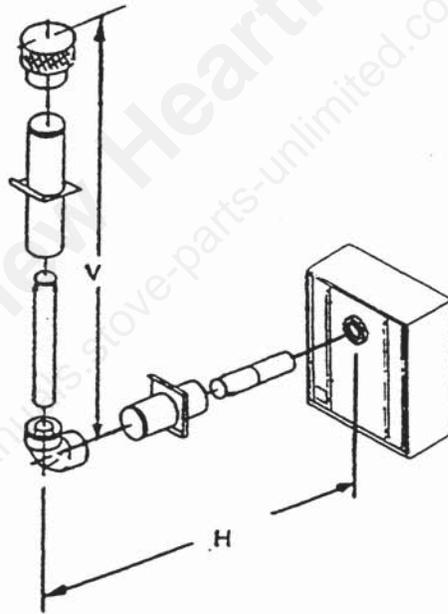

FIGURE 6
Figure 6 and Table 3 show examples of possible installations using one (1) 90° elbow. Dimension V is listed as **MINIMUM** vertical dimensions and dimension H is listed as corresponding **MAXIMUM** horizontal dimensions. If one 90° elbow is used in the vent system, a vertical termination will result.